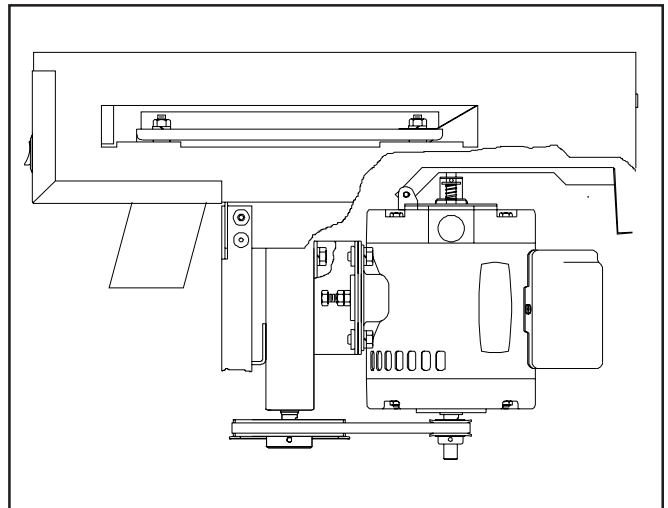

Fig. 16 - Shaver Drive Motor
2. Loosen the belt tension adjustment screws by first loosening the jam nuts then turning the adjustment screw counter-clockwise (Fig.16).